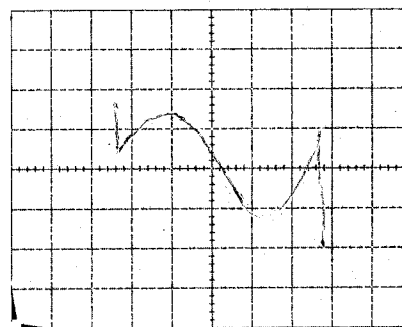

Figure 5-2. Gain curve with a 2-KΩ load, 50 μV/div vertical sensitivity.
- 6) Display actual gain — Switch VERT UNITS/DIV to smaller values until display almost fills screen vertically in region between horizontal points corresponding to specified domain. As necessary, press DISPLAY ZERO to center trace on screen. Press UPPER and LOWER ERASE to clear screen, UPPER and LOWER STORE to save display. Refer to Figure 5-2. **50 48 3 2**